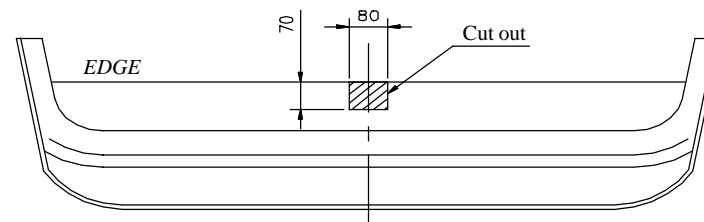

Fig. 2
2. In bottom part of the bumper cut out the hole as show in the fig. 2
4. Put bar of the towbar (pos. 1) into the chassis member and fix with bolts M10x30mm (pos. 7), use big washers  $\varnothing 35 \times \varnothing 12 \times 3$ mm (pos. 11).
5. Put brackets (pos. 4 and 5) to the rear piece and fix it through holes pos. A to the bar of towbar using bolts M8x30mm (pos. 8), use big washers  $\varnothing 25 \times \varnothing 9 \times 2$ mm (pos. 12).
6. Through holes (pos. B) in brackets (pos. 4 and 5) fix nuts M8 with big washers  $\varnothing 25 \times \varnothing 9 \times 2$ mm. Take care at the torque moment - **10 Nm**.
7. Through holes (pos. C) in brackets (pos. 4 and 5) make holes with drill  $\varnothing 9$ mm, and next fix with bolts M8x30mm (pos. 8).
8. Fix body of the automat (pos. 9) and the socket plate (pos. 3) using bolts M12x25mm (pos. 6) from accessories. Place tow-ball (pos. 2) according to supplied instruction.